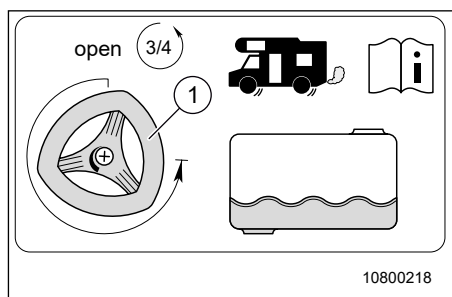

Fig. 60 Weight reduction
- Close the stopcock (Fig. 60, Pos. 1) by rotating it 3/4 of a turn in the anti-clockwise direction. Excess water drains from the water drain.